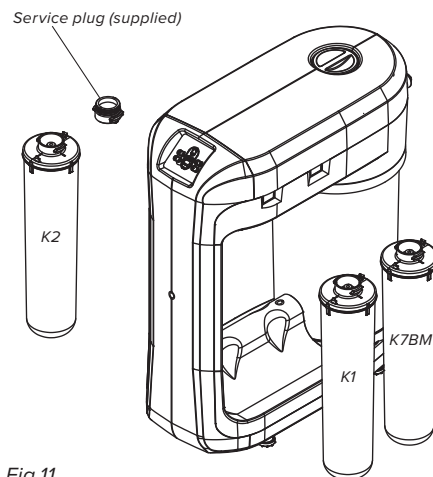

Fig. 11
- Install the cartridges as shown in Fig. 11.